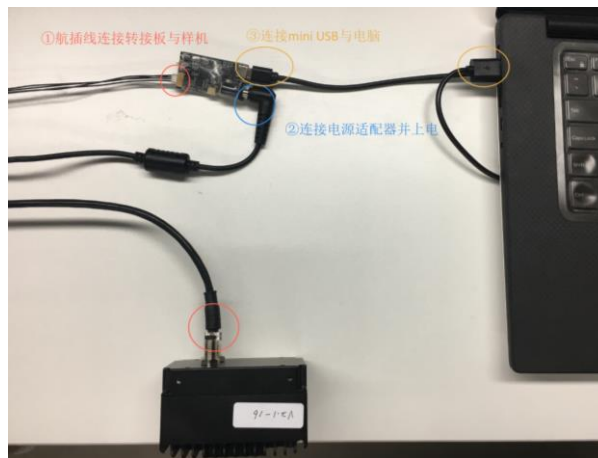

Fig. 3 Illustration for Connection of Components
1. Connect all the accessories in accordance with Fig. 3 Illustration for Connection of Components.